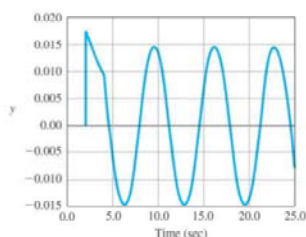

Figure 4.48: Unit impulse response for paper-machine in Problem 4.37
- (b) The system becomes marginally stable for a proportional gain of $K_H = 3.044$ as shown by the unit impulse response in Fig. 4.48. Find the optimal PID-controller parameters according to the Ziegler-Nichols tuning rules.